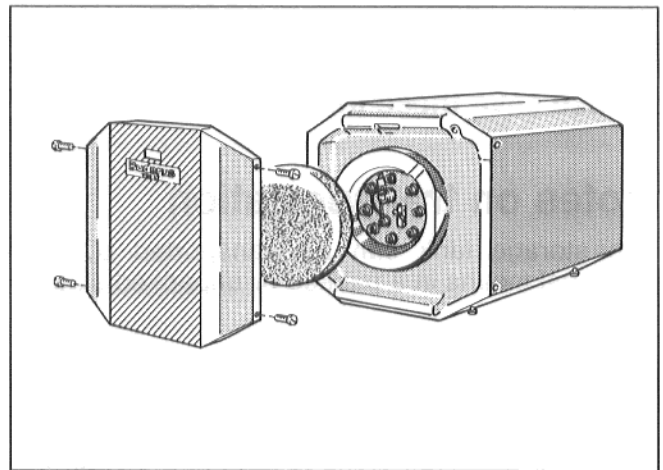

Fig. 12
- Unscrew the 2 self-tapping screws each on the right and left of the side panel (Fig. 12).
- Remove the front panel of the storage tank toward the front and take out the high-resilient foam insulating disk (Fig. 12).
- Insert thermal insulation in front of the inspection port lid and screw the front panel tight with 2 self-tapping screws each on the right and left (Fig. 12).